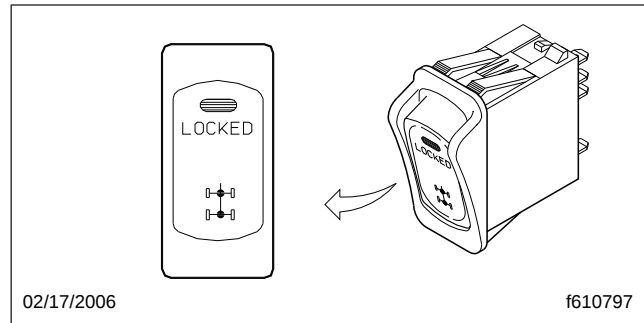

Fig. 15.2, Differential Lock on Both Axles
- one switch to control the differential lock on only one of the drive axles (this switch will show only one dot on one drive axle, varying slightly from the switch shown in Fig. 15.2).
- one switch to control the differential locks on both drive axles (Fig. 15.2).